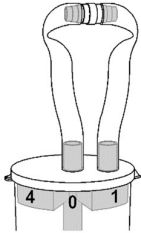

Fig. 4
9. Connect both tubes with the connector (Fig. 4). The Suction Polyp Collector is now sealed